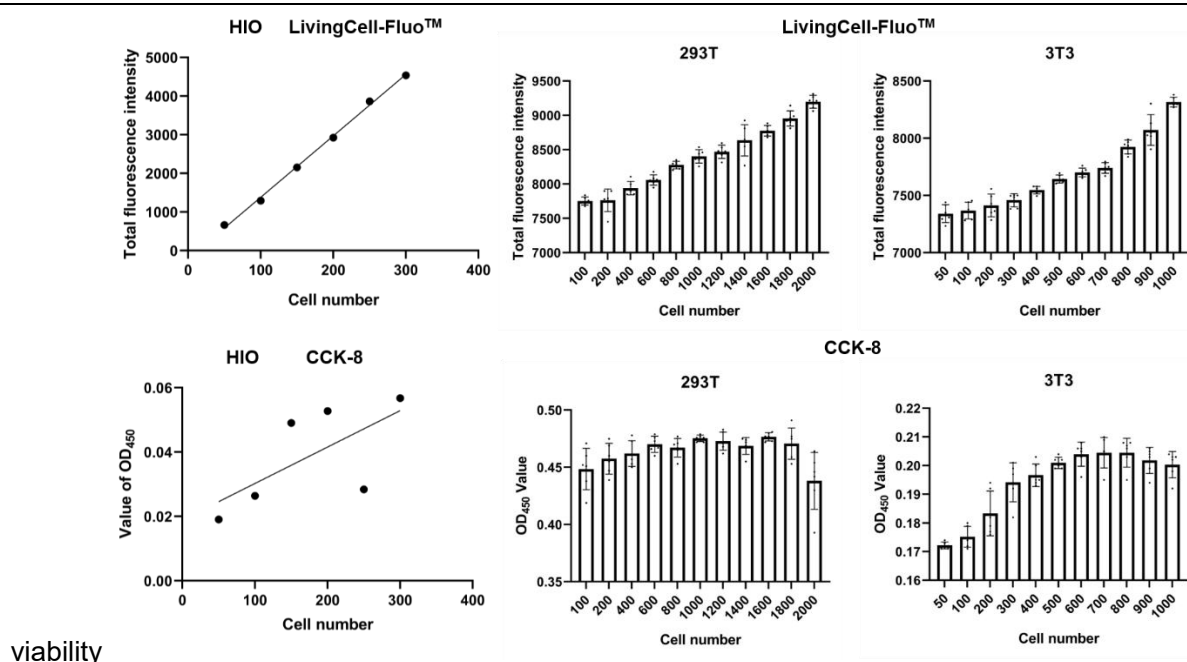

Figure 4 Comparison of LivingCell Fluo™ Cell Vitality and CCK8 for detecting the vitality of 3D HIOs and 2D cell lines (293T and 3T3)
5. Compare the vitality of 3D HIO with different cell numbers using LivingCell-Fluo™ Cell Vitality and CCK-8 (same experimental parameters). Results indicate that CCK-8 does not show a linear relationship with cell numbers (50-300), and at 250 cells, absorbance values decrease despite increased cell numbers, suggesting lower sensitivity and stability of CCK-8. In contrast, LivingCell-Fluo™ Cell Vitality shows a good linear relationship between cell number and fluorescence signal, demonstrating higher sensitivity and stability compared to CCK-8 (Figure 4).
6. Compare the vitality of 2D cells (293T and 3T3 cell lines) using LivingCell-Fluo™ Cell Vitality and CCK-8 (same experimental parameters). Results show that CCK-8 does not exhibit a linear relationship with cell numbers (50-2000), and at 2000 cells, absorbance values decrease despite increased cell numbers. LivingCell-Fluo™ Cell Vitality provides a good linear relationship between cell number and fluorescence intensity, showing higher sensitivity and stability compared to CCK-8 (Figure 4).